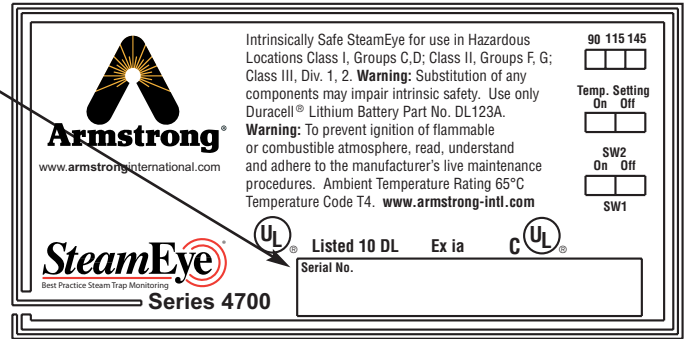

Figure 1. Model URFC 4700 Installation
1. Verify tag number to transmitter as shown in Figure 1.
1. Verify tag number to transmitter as indicated in Figure 1.